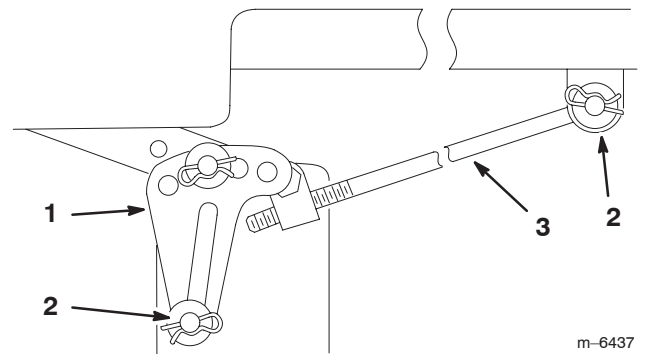

Figure 44
Note: Before removing the mower, make a note for which holes are used in the leveling brackets (Fig. 44).
5. Remove the hairpin cotter and washer from the adjusting rod (Fig. 44) on each side of the mower.
6. Remove the hairpin cotter and washer at the mower leveling brackets (Fig. 44) on each side of the mower. Note which hole the leveling bracket is mounted in for future installation. Slide the brackets off of the mounting pin.
5. Attach the adjusting rod to the machine with the washer and hairpin cotter (Fig. 44) on each side of the mower.
6. Slide the leveling brackets onto the mounting pins and secure them with the washers and hairpin cotters (Fig. 44).